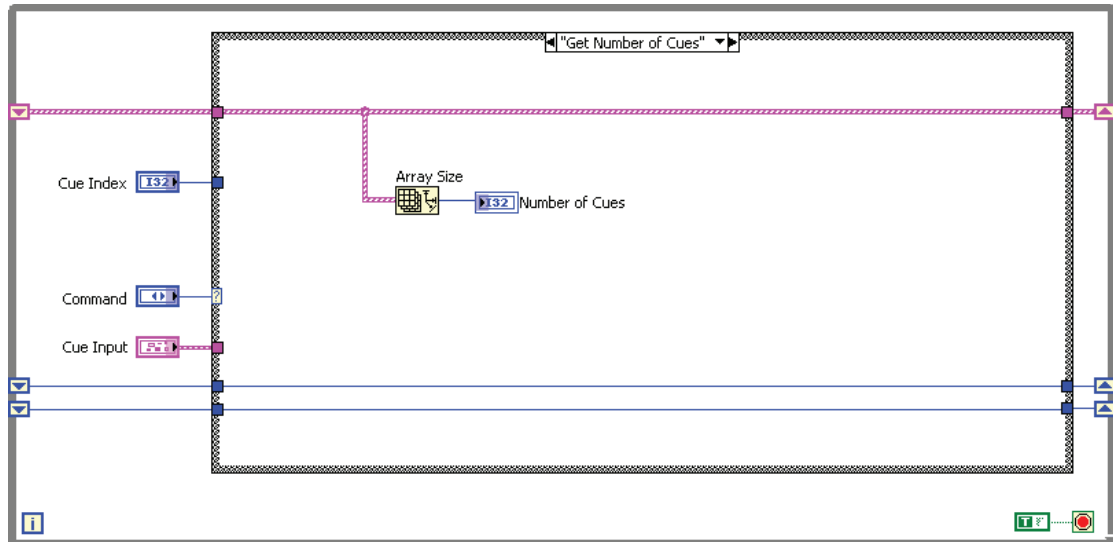

Figure 4-15. Get Number of Cues Case
9. Use the Array Size function to complete the Get Number of Cues case, as shown in Figure 4-15. This case retrieves the recorded cues and updates the Cue List.